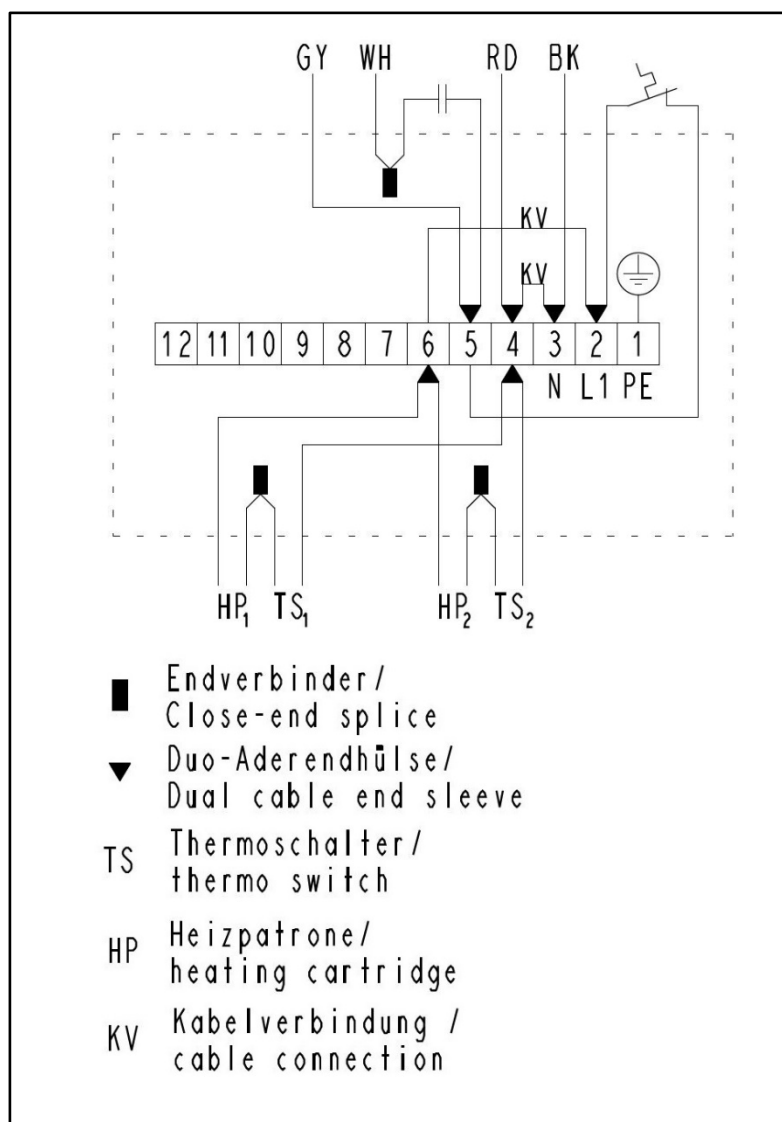
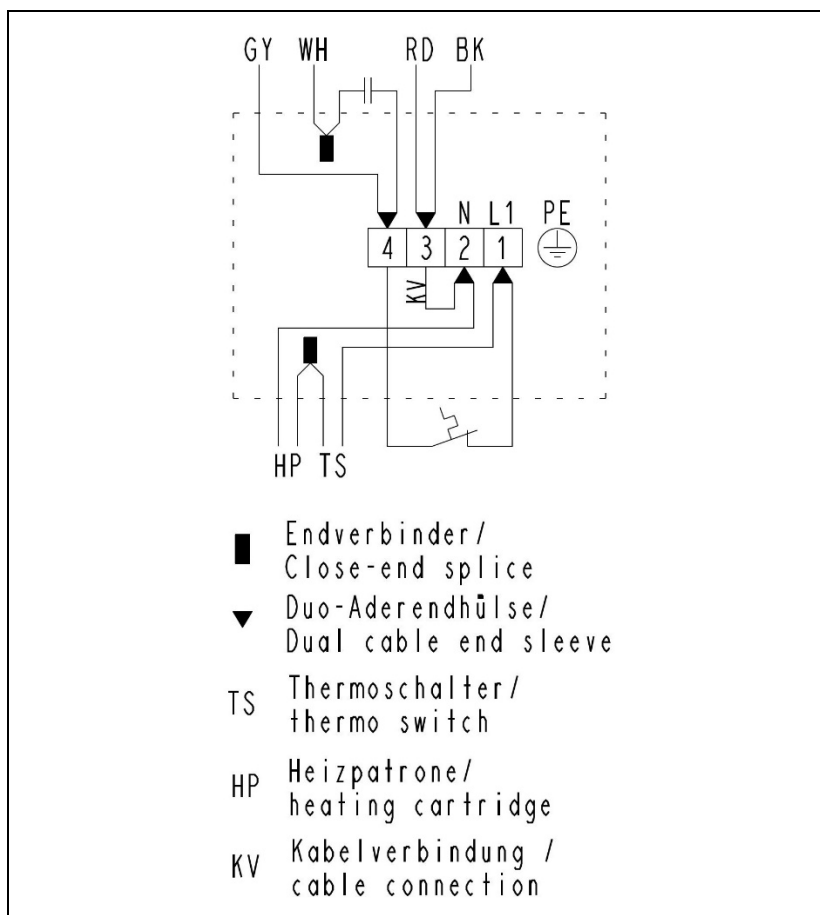

Fig. 13: Electrical connection of N 036.0\_T.11 E
Fig. 14: Electrical connection of 11 E
5. Connect the mains cables to the connections L 1 and N of the luster terminal (see Fig. 13 and Fig. 14).